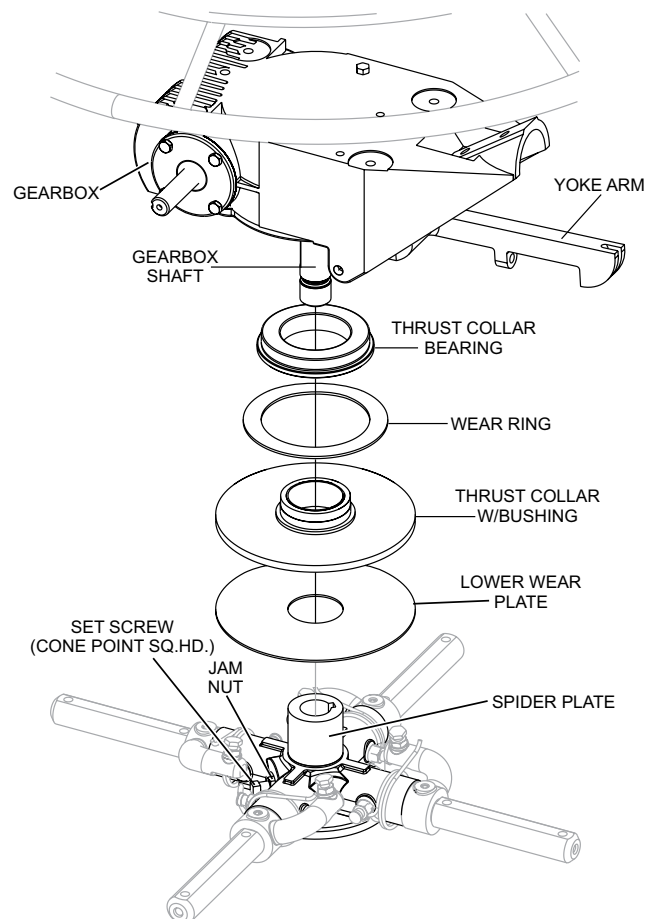

**Figure 50. Incorrect Spider Plate Alignment**
- Figure 50 illustrates, “incorrect alignment”, worn spider bushings or bent trowel arms.